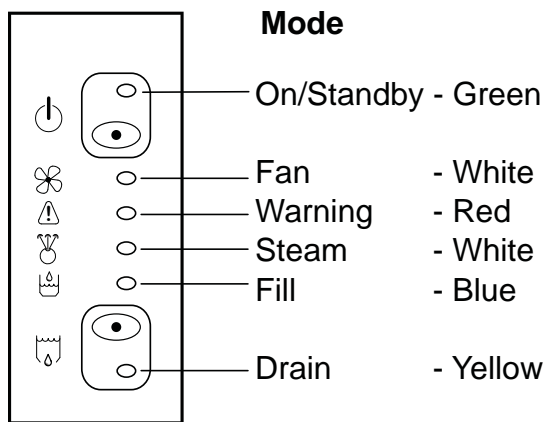

Fig. 5a
5.1 The electronic board located inside the unit controls all the humidifier functions. The front LED panel is equipped with pilot lights indicating the status of the humidifier. Please see Fig.5a. Please refer to Article 5.2 for the description of the functions.